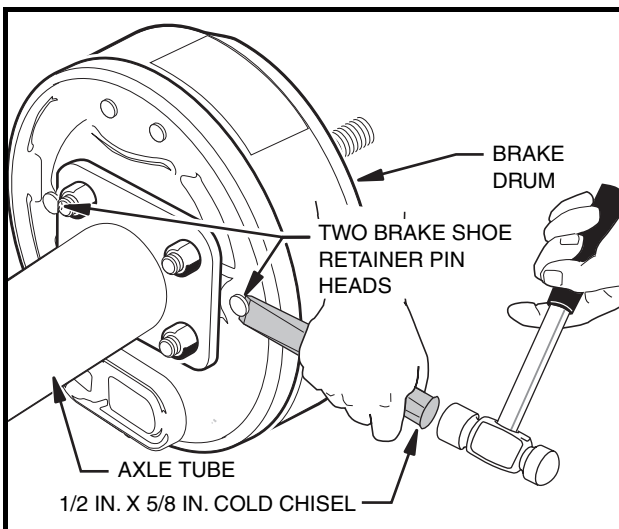

Figure 6-3 Shoe Retainer Pins
5.2. Insert a 1/2 inch x 5/8 inch cold chisel under the head of each pin and shear them off as illustrated (Figure 6-3, Page 6-2). This will release the shoes from the backing plate, allowing them to pivot away from the inside of the brake drum, which should then allow the brake drum to be pulled free. After completing step 6, skip step 7. **See following NOTE.**